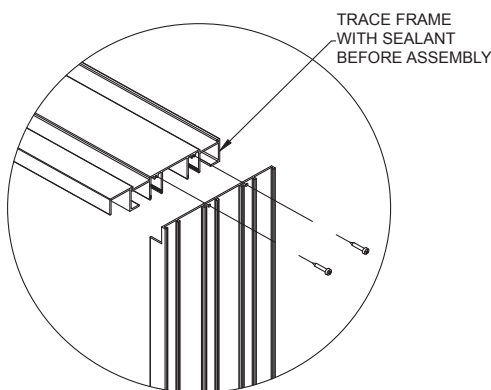

Figure 8
1. Gather the main frame header, sill and jamb (if single pocket). Trace the frame head and sill ends with sealant on jamb side of single pocket doors. It is not necessary to trace the frame ends if the unit is a double pocket door. (See Figure 8 and 9)
2. Assemble mainframe head, sill, and jamb, on a single pocket door using the supplied # 8 x 1 Philips pan head screws at each assembly hole. (See Figure 8 and 9) This step is not required on double pocket units.